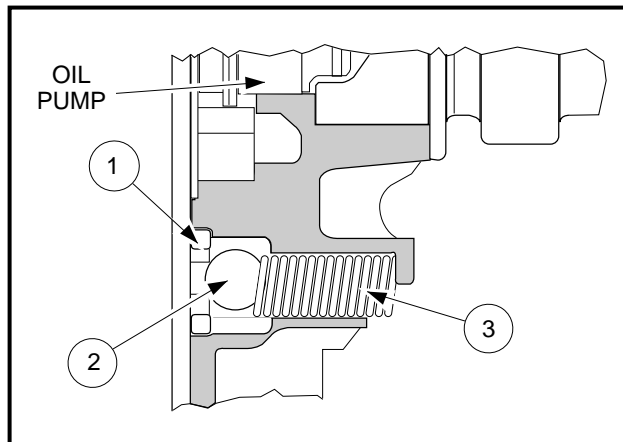
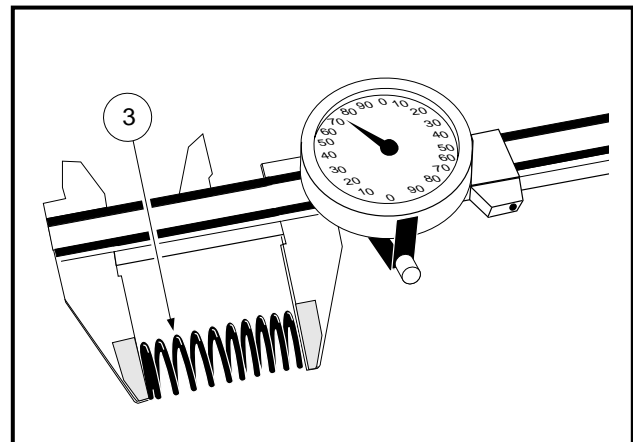

Figure 13-70 Oil Pressure Relief Valve
Figure 13-71 Measure Free Length of Spring
2. Remove the valve seat (1), ball (2) and spring (3) (**Figure 13-70, Page 13-34**).
1. Note the condition of the ball (2) and the valve seat (1). They must not have any nicks or burrs. Replace if necessary (**Figure 13-70, Page 13-34**).
2. Inspect the relief valve spring (3) for pitting, cracks, rusting and burrs. Replace if necessary.
3. Measure free length of the spring (3) with a vernier caliper (**Figure 13-71, Page 13-34**). If the free length of the relief valve spring is less than 0.748 inches (19.00 mm), replace the spring.